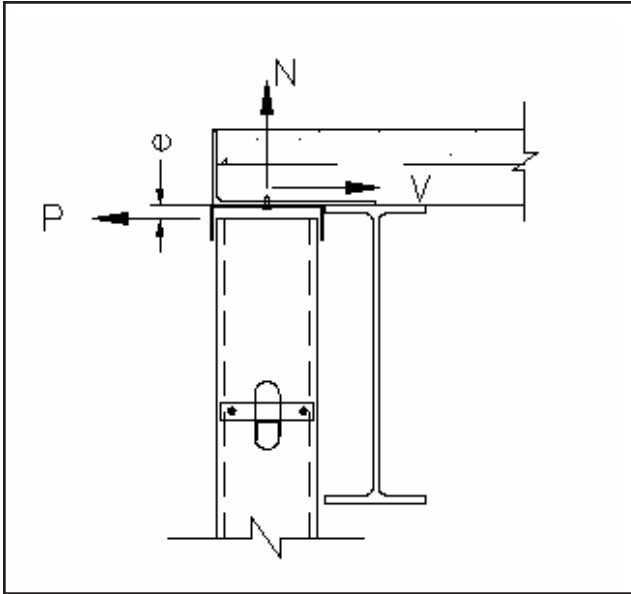

FIGURE 2
1. Anchorage - Design the fasteners to structure for direct shear from the stud reaction and for indirect tension due to the eccentricity of the load. See Figure 2.